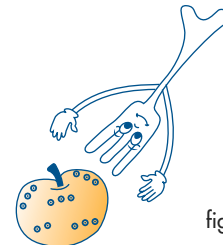

fig. 8
- 3) Food with skin, shell or peel (e.g. apples, potatoes, tomatoes, frankfurters and fish) should be **pierced in several places** with a fork in order to let out the steam without the skin or peel bursting (fig. 8).